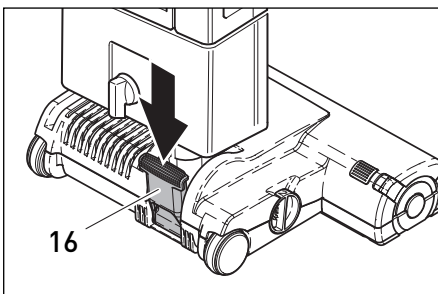

Figure 3
3. With the switch (5) in the OFF position (figure 3), plug the polarized power cord into a 120 volt outlet located near the floor.
Operating Positions - Figure 3